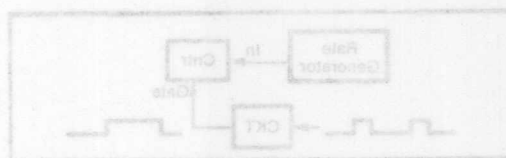

FIGURE 7. Basic Counting Circuit.
- The trick is to generate an appropriate gate signal corresponding to the time between two input pulses. This is suggested in Figure 7.